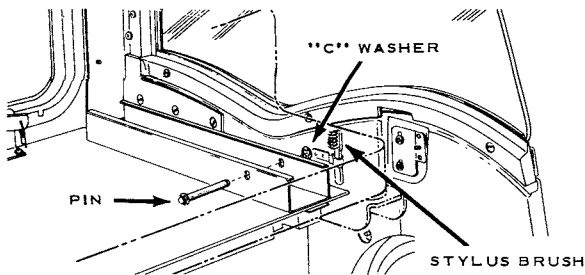

Figure 24.
When records are changed, or the equipment is cleaned the styluses and the stylus brushes should be cleaned by using the small brush furnished for this purpose and mounted in the cabinet as shown in Figure 24.
5. Unlock mechanism frame by removing "OUTER" c-washer on each channel locking pin; remove locking pins *Figure 24*.